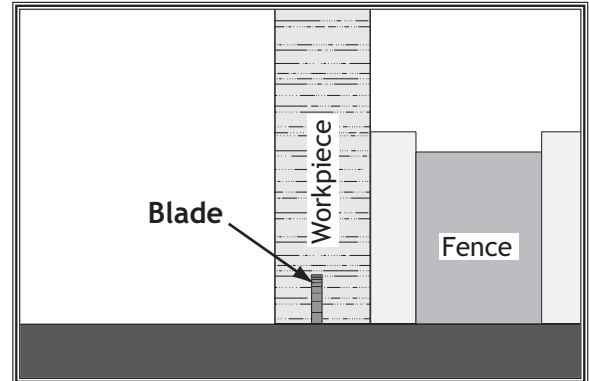

Figure 64. Rabbet cutting with a standard blade.
5. Stand the workpiece on edge, as shown in **Figure 64**, then adjust the fence so the blade is aligned with the inside of your rabbet channel.